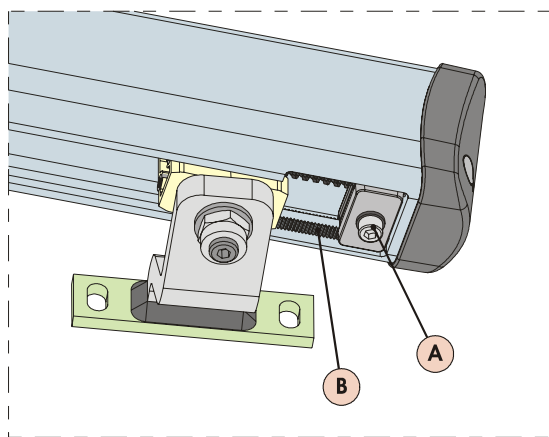

Fig. 19
- 3) Loosen the fastening screw, Fig.19 ref.A. Do not remove the screw.
**IMPORTANT:** The mechanical stop works coupled to a toothed sector, Fig. 19 ref. B. If there are any troubles during the movement, make sure that the coupling is free. **DO NOT FORCE.**